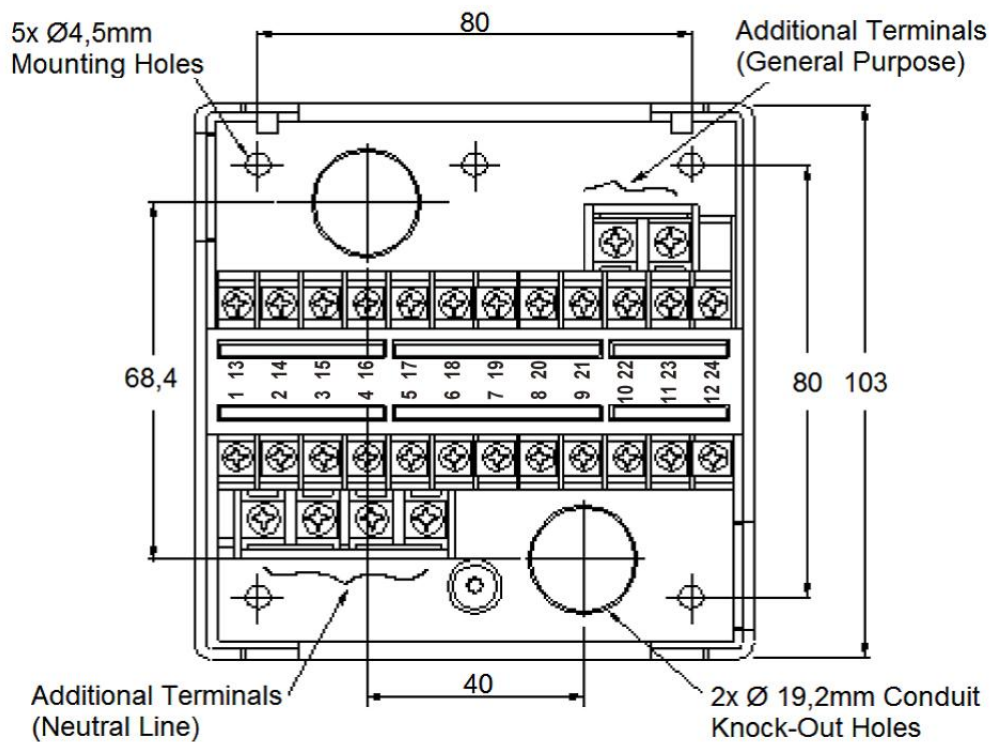

Fig. 2: Mounting dimensions of sub-base and terminal layout
1. Fig. 2 shows the layout of the terminals on the subbase, and Figs. 3-1 to 3-3 show examples of connections to external equipment. Regarding the wiring to the flame detector, refer to Fig. 4.